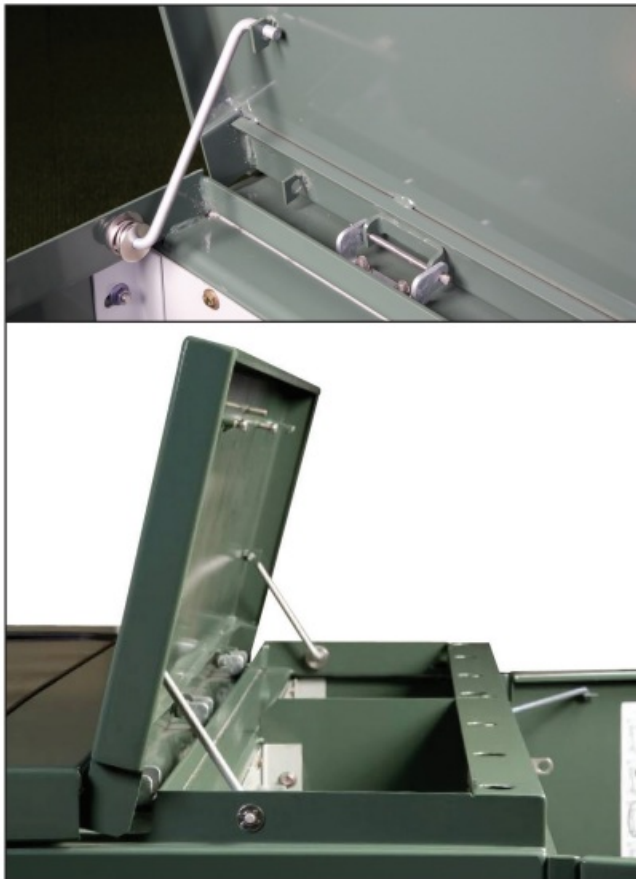

Figure 5. Roof opened and latched.
- Step 3. Lift up the roof section and latch it at both ends using the supplied retainers. See Figure 5.